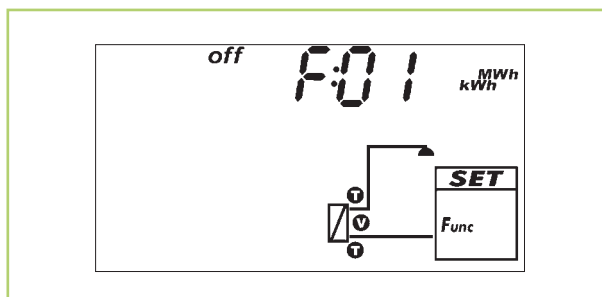

Fig. 10: Display functions
- Function number, e.g. F:01 (Fig. 10)
- "off": Function is deactivated (Fig. 10)